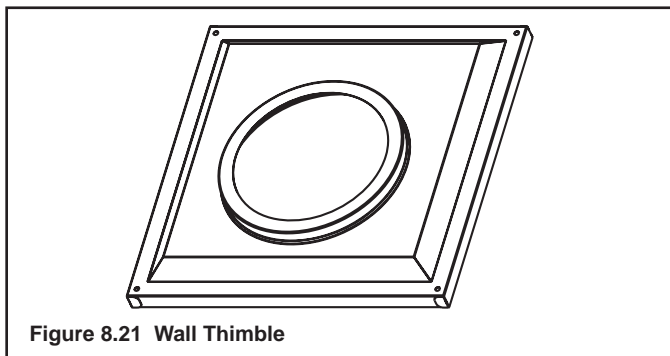

Figure 8.21 Wall Thimble
- Once the pipe section and the termination cap have been connected, slide the wall thimble up to the interior wall surface and attach with screws provided. See Figure 8.21.